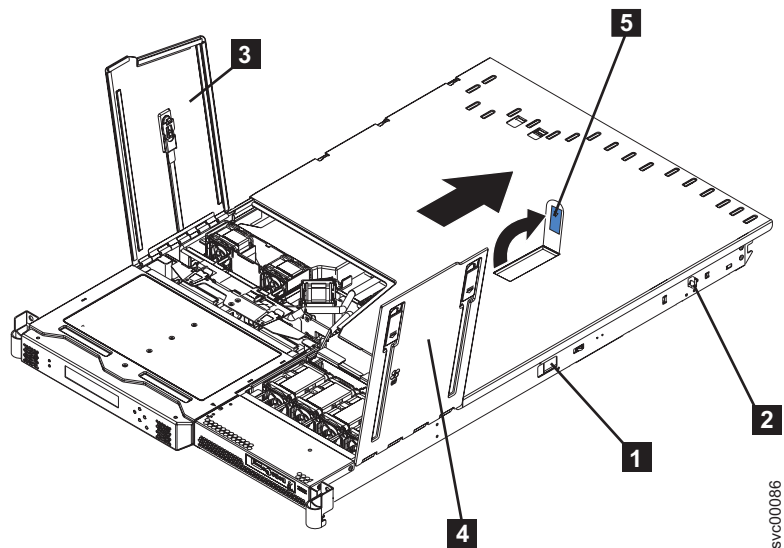

Figure 68. SAN Volume Controller 2145-8F2 or SAN Volume Controller 2145-8F4 with fan doors open
- b. Slide both side release latches (left and right) toward the front of the node. Make sure that both rail-lock pins **2** are in a vertical position, pull the node out, and remove it from the rack. See Figure 68 on page 285.